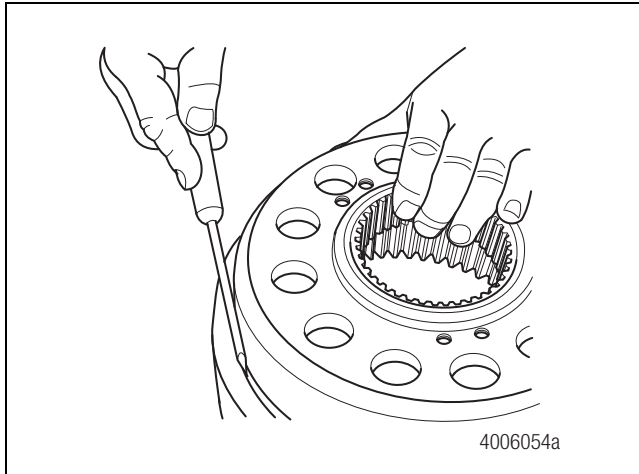

Figure 12.11
15. If the the ring gear assembly was disassembled, reinstall the ring gear on the ring gear carrier and install the snap ring. Figure 12.11.